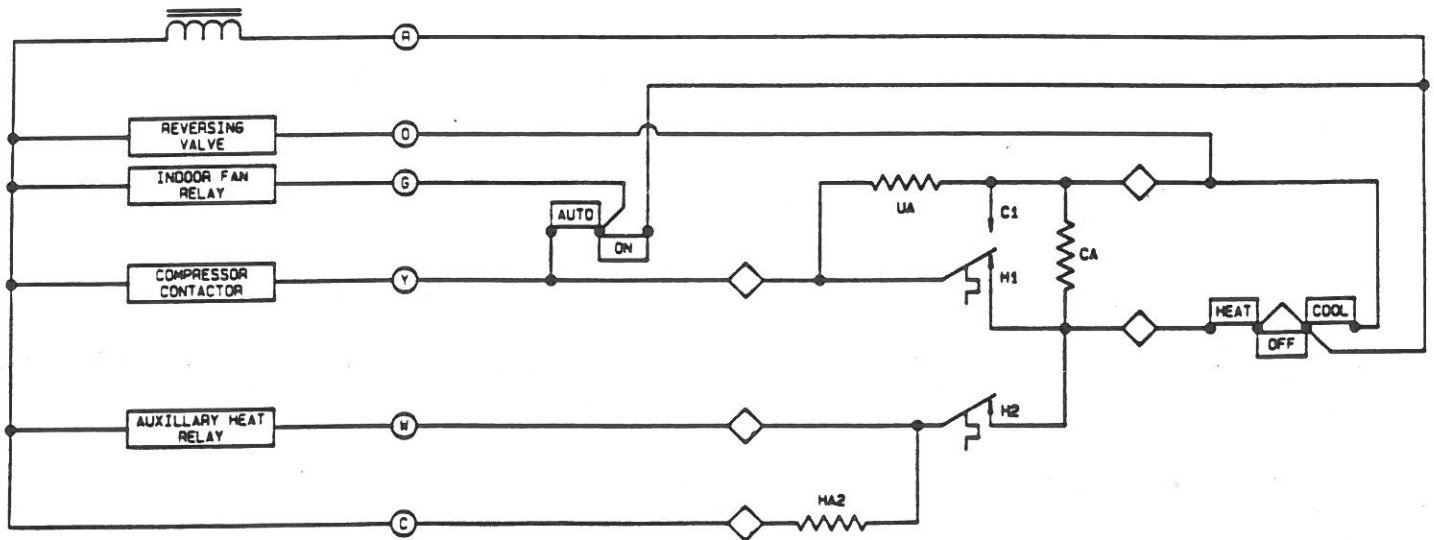

Fig. 3 Internal Wiring Schematic
2. Connect leads to terminals per unit diagram or hook-up diagram. Refer to Installation Instructions of the heat pump and Figure 3 for wiring instructions.